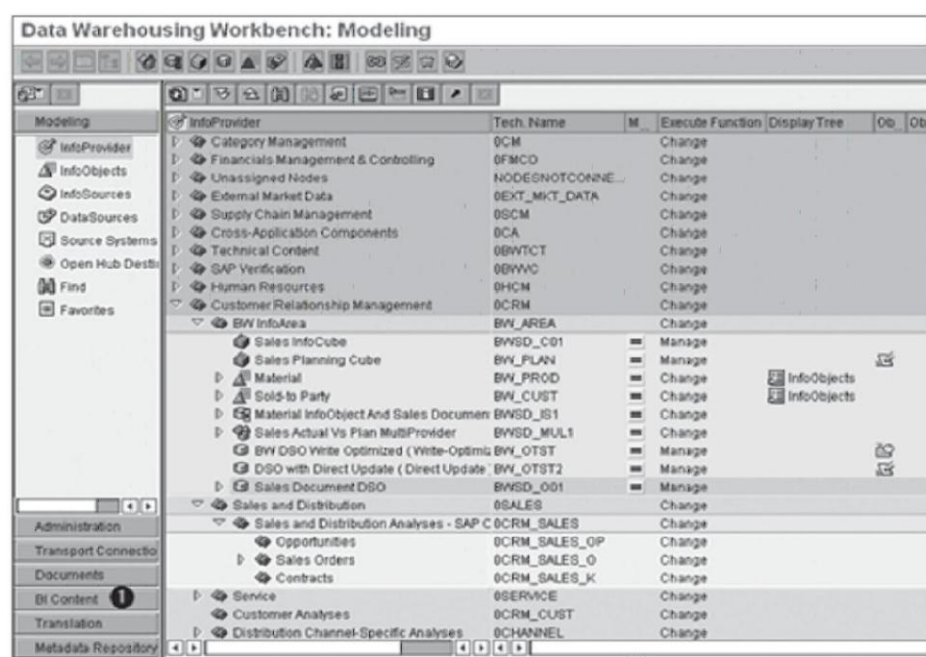

Figure 2.22 Starting Business Content
SAP Business Content plays a crucial role in any SAP NetWeaver BW project. In this section, we explain the process of activating SAP Business Content. Start DWW using Transaction RSA1, and click on BI Content, as shown in ❶ of Figure 2.22.